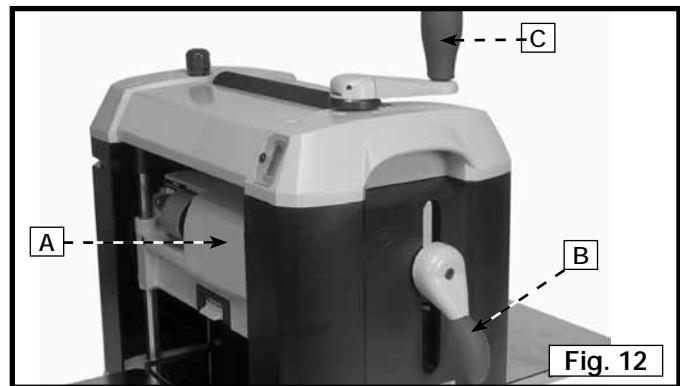

Fig. 12
The head assembly (A) Fig. 12 contains the cutterhead, feed rollers, chip deflector and motor. Raising and lowering the head assembly (A) controls the depth of cut. To adjust the head assembly, rotate the cutterhead lock handle (B) counterclockwise to unlock the cutterhead. Turn the cutterhead adjusting handle (C) clockwise to raise or counterclockwise to lower the cutterhead (A). One revolution of handle (C) will move the cutterhead up or down 1/16" (1.6 mm).